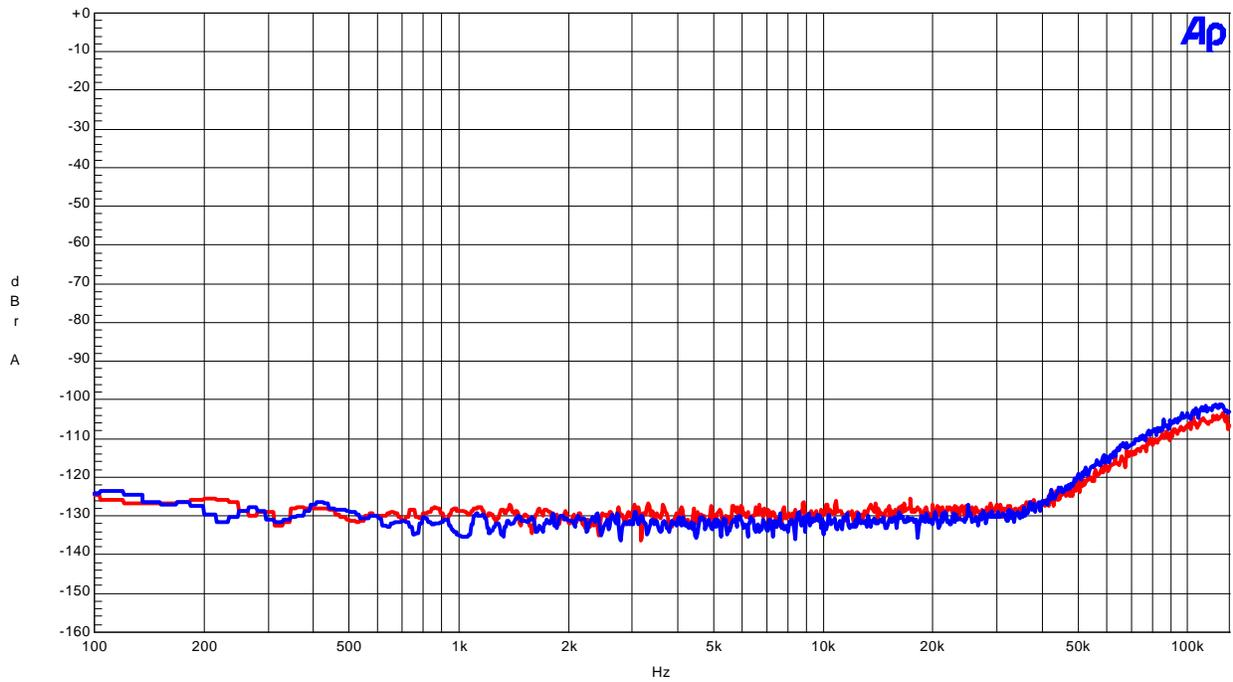

Figure 9 . FFT (out-of-band noise)
- Figure 9. FFT (out-of-band noise)